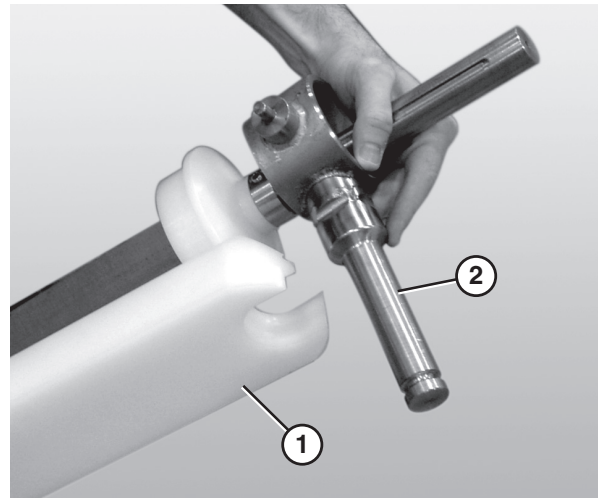

Figure 86
8. Attach the guard bar (Figure 86, item 1) to the bearing / motor mount bracket shafts (Figure 86, item 2).